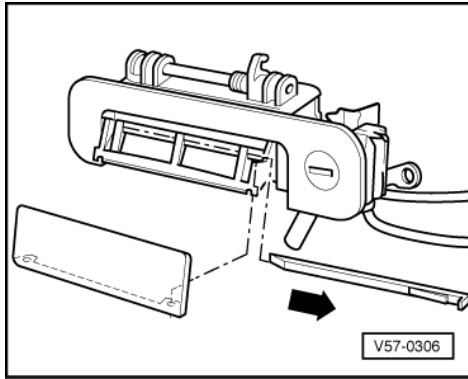

Fig.1 Removing cover for door handle
To avoid damage to paintwork on the handle cover, remove it before removing the door handle =>Fig. 1.
- ♦ Removing =>Fig. 1 .